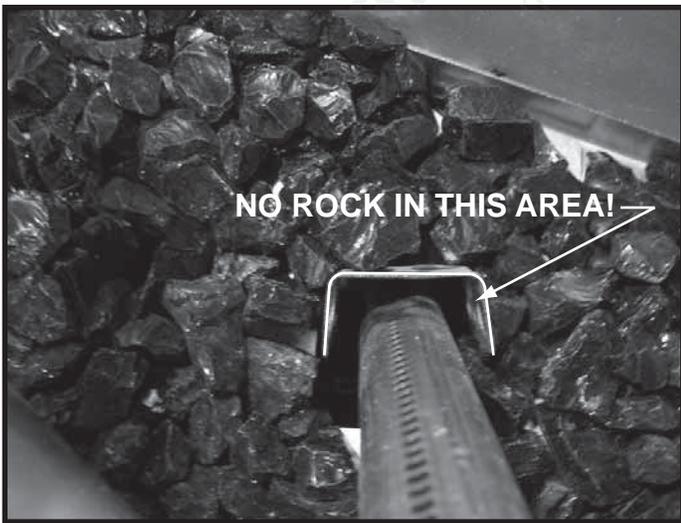

Figure 15.9 DO NOT Block Ports!
- Ensure that no glass rock is blocking any ports on burner tubes. The area between the rock shield and the back burner tube **MUST** be kept open as shown in Figure 15.9.